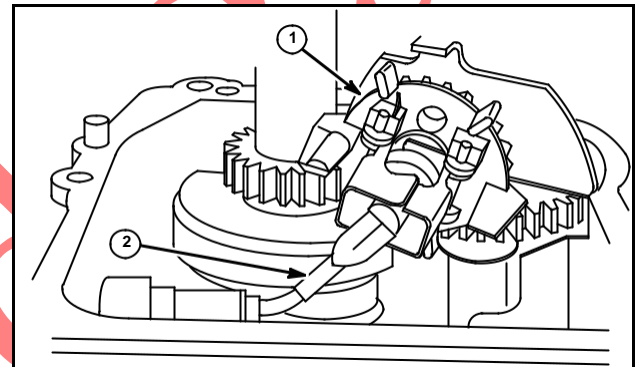

Fig. 44
Current Style, Fig. 44: Oil slinger and governor (1), governor crank (2).